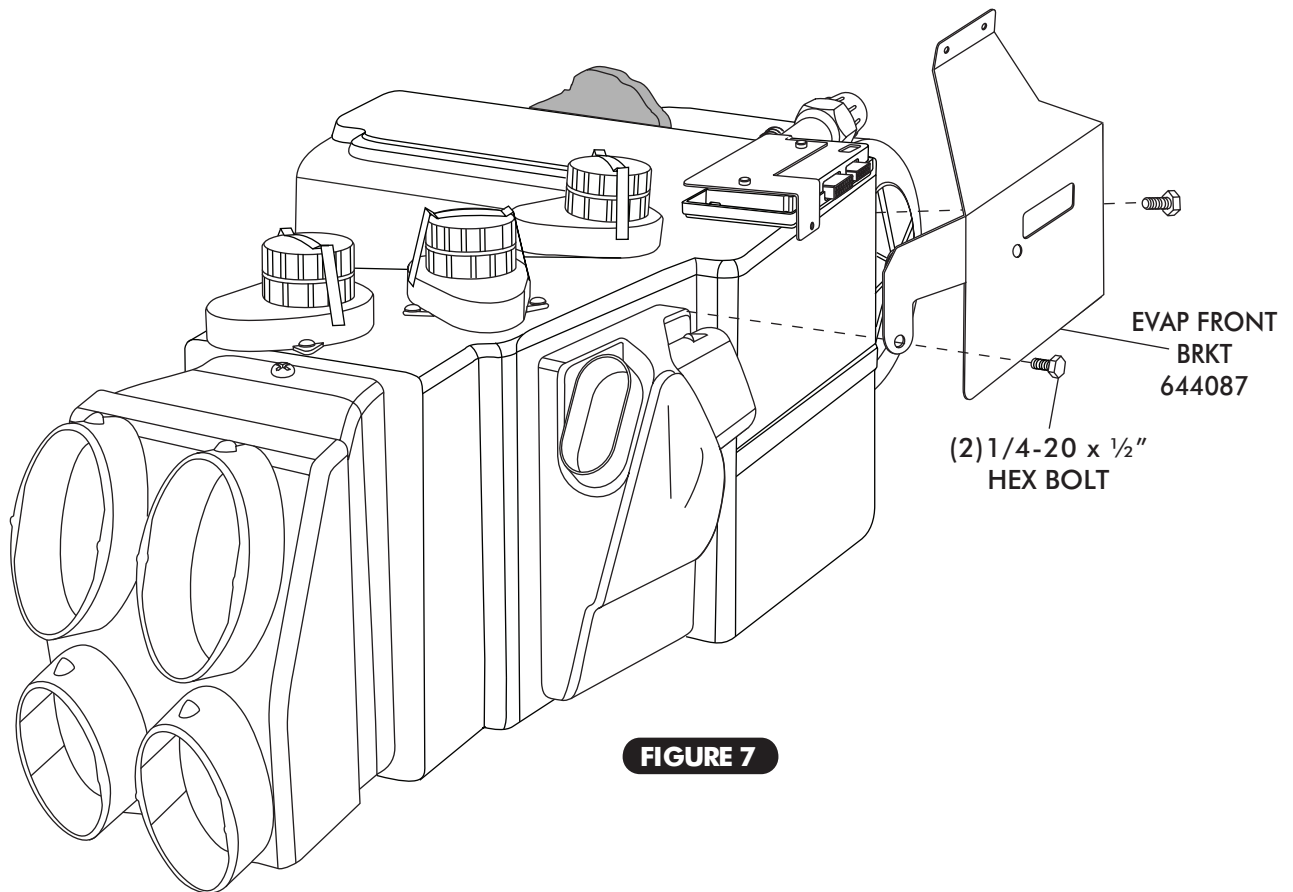

FIGURE 7
- INSTALL EVAPORATOR FRONT BRACKET ON EVAPORATOR USING (2) 1/4-20 x 1/2" HEX BOLTS AND TIGHTEN AS SHOWN IN FIGURE 7, BELOW.